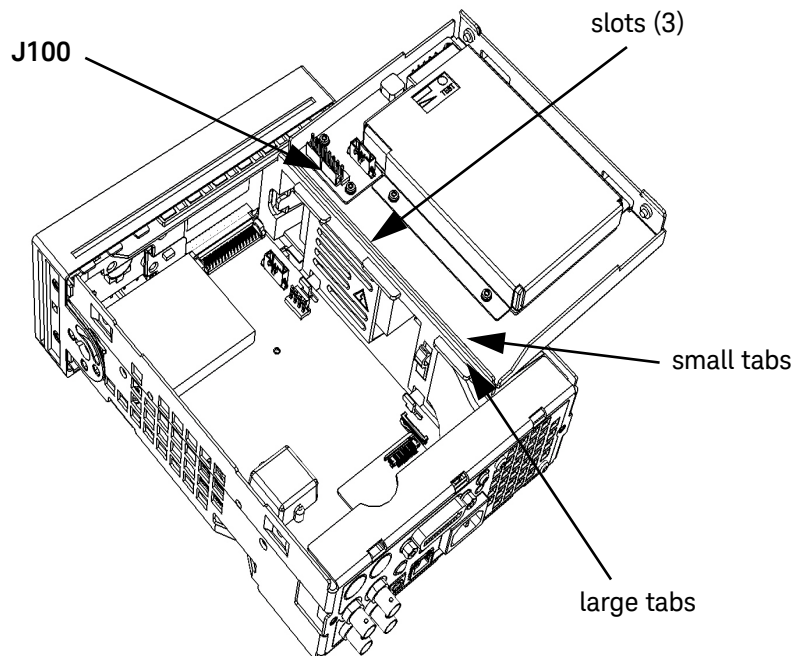

Figure 2-12 Battery folded in the service position
- Lift up carefully on the two side-overlapping tabs on the left side of the battery assembly and separate the assembly from the three large tabs holding it on the right side. Lay the assembly on its back to the right side of the chassis and place the three small tabs (on the back side of the three large tabs) into the three slots on the assembly deck. (See Figure 2-12.)